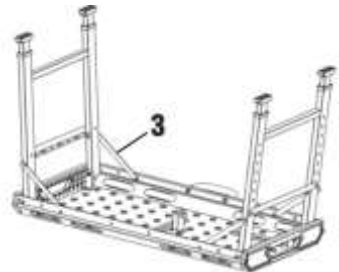

Fig. 3
5. Ensure the connect bars (#3) on either side of both sets of legs are fully extended and locked in place (Fig. 3).